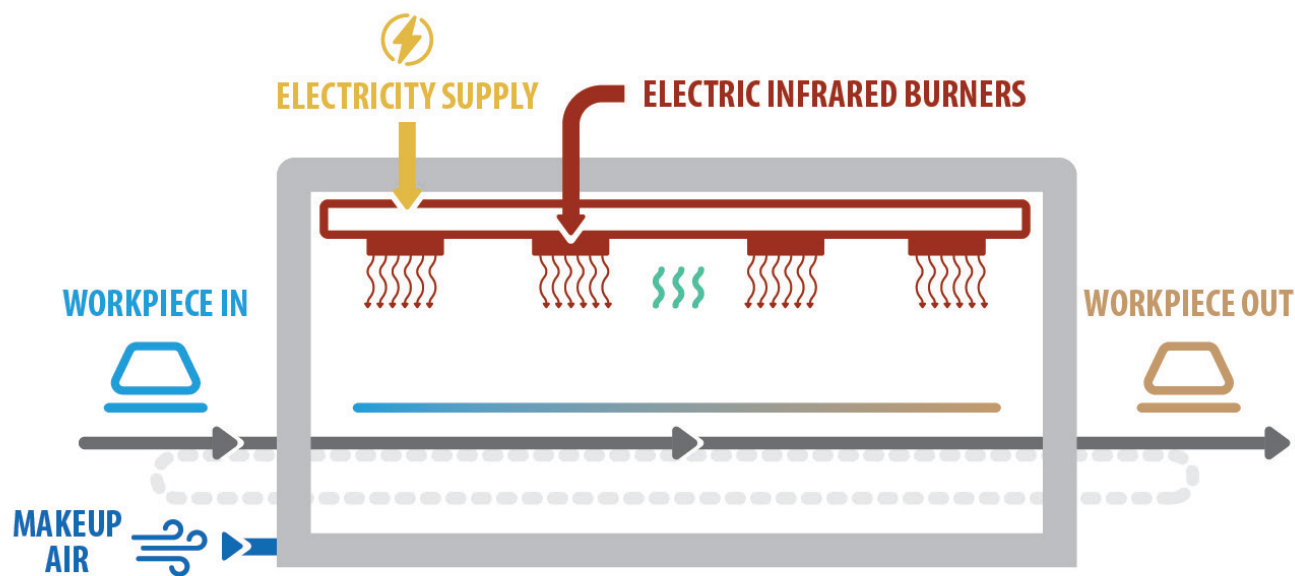

Figure 3. Schematic of an electric IR heating system.
Electric infrared (IR) heating works by converting electricity into IR (0.75 to 1,000 μm) radiant heat in a heat lamp (Figure 3). IR radiation can be absorbed and converted